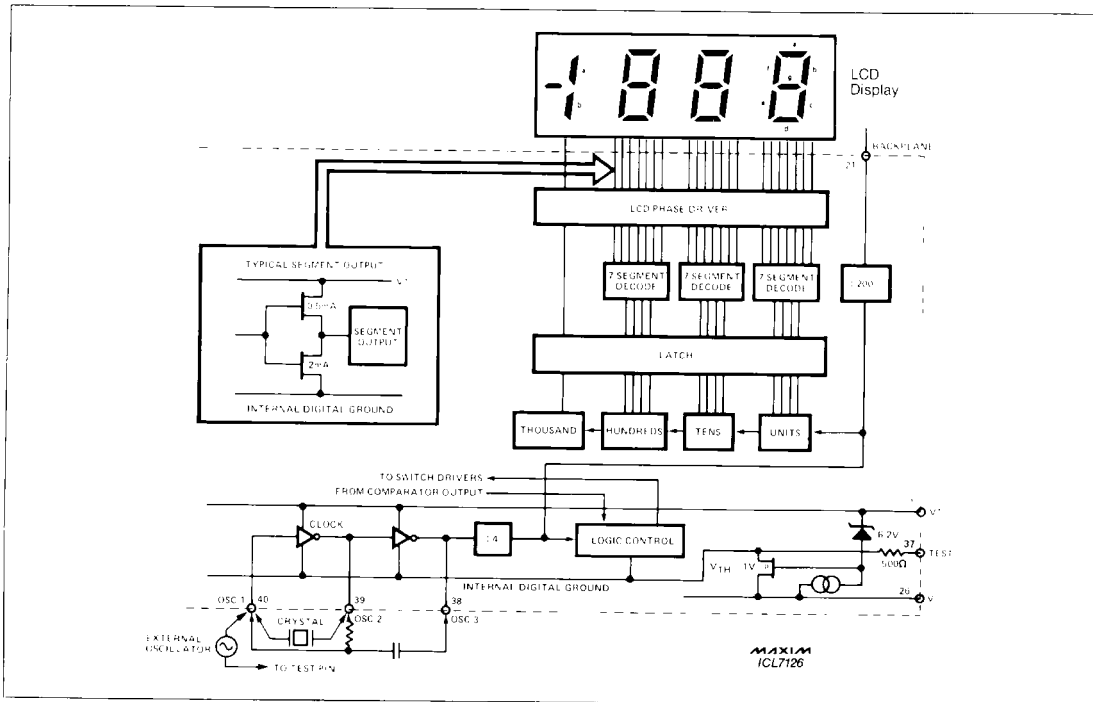

Figure 7. ICL7126 Digital Section
The digital section for the ICL7126 is illustrated in Figure 7. In Figure 7, an internal digital ground is generated from a 6V zener diode and a large P channel source follower. This supply is made stiff in effort to absorb the large capacitive currents when the back plane (BP) voltage is switched. The BP frequency is calculated by dividing the clock frequency by 800. For example, with a clock frequency of 48kHz (3 readings per second), the back plane will be a 60Hz square wave with a nominal amplitude of 5V. The segments are driven at the same frequency and amplitude. Note that these are out-of-phase when the BP is On and in-phase when OFF. Negligible dc voltage exists across the segments in either case.
The clocking circuitry for the ICL7126 is illustrated in Figure 7. Three approaches can be used: